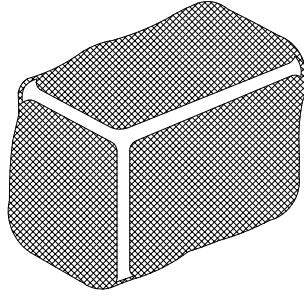

Figure 15. Wrapped Item
5. The properly wrapped item will have the *copper* side of the film facing out, away from the item (figure 15).